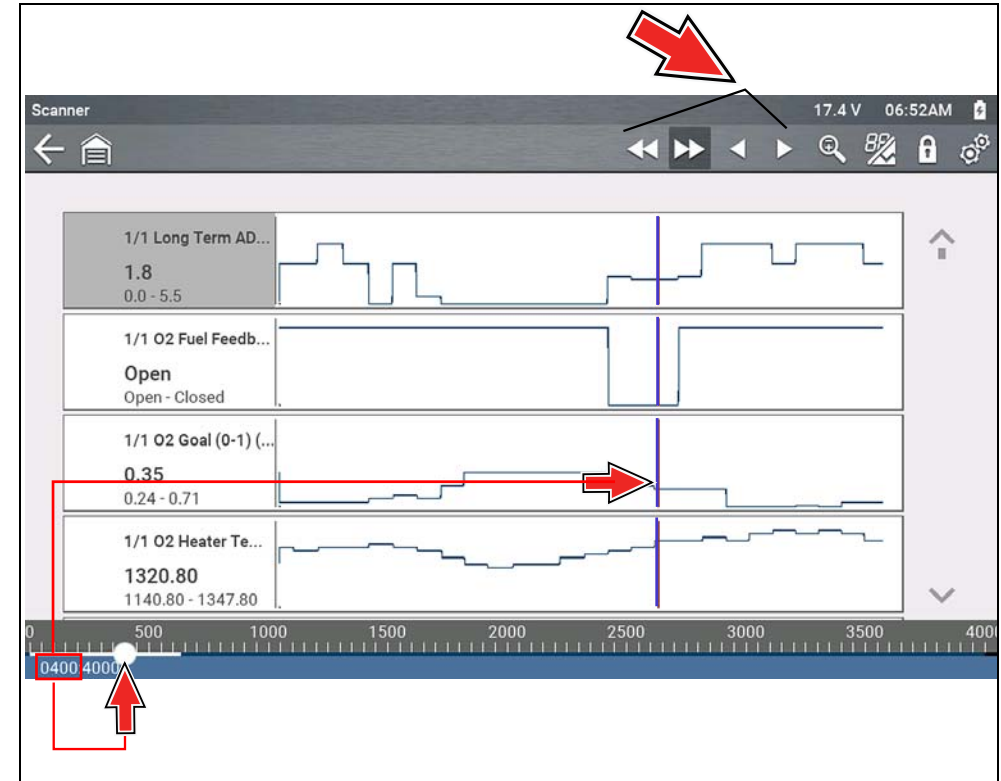

Figure 4-22
3. In graph view, use the control icons to move through the data (Figure 4-22).
The blue (vertical cursor) (Figure 4-22) indicates your position in the data and is denoted by the current position value (Figure 4-22) in the counter display. The cursor displays in all PIDs.